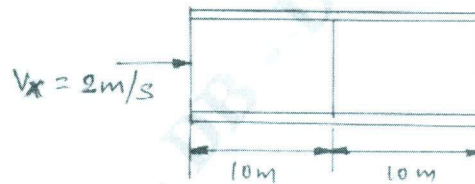

Fig.Q8(a)
- 8 a. For the smooth pipe shown in Fig.Q8(a) with uniform cross-section of 1 m^2 , determine the flow velocities at the centre and right end, knowing the velocity at the left is $V_x = 2 \text{ m/sec}$. (10 Marks)